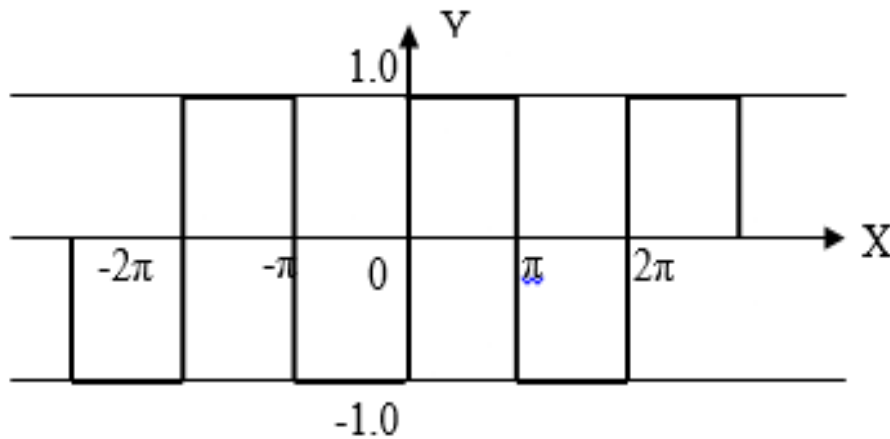

Fig.2
6. Represent the Fourier series for the curve shown in Fig.2